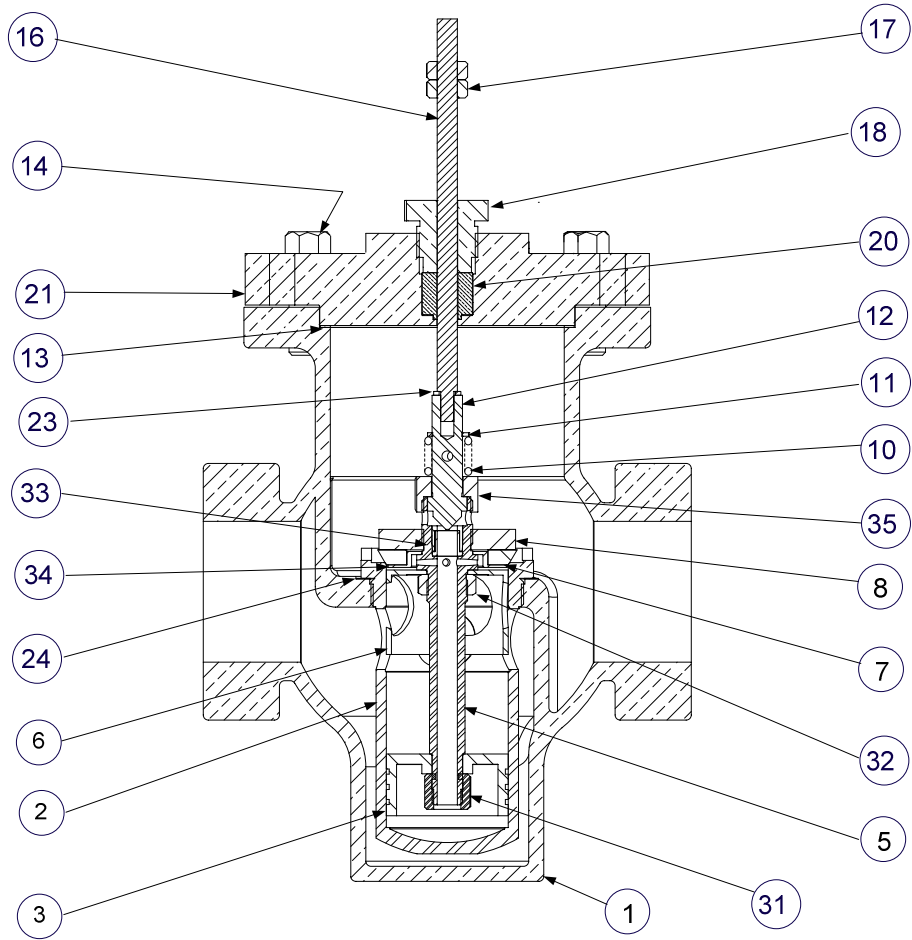
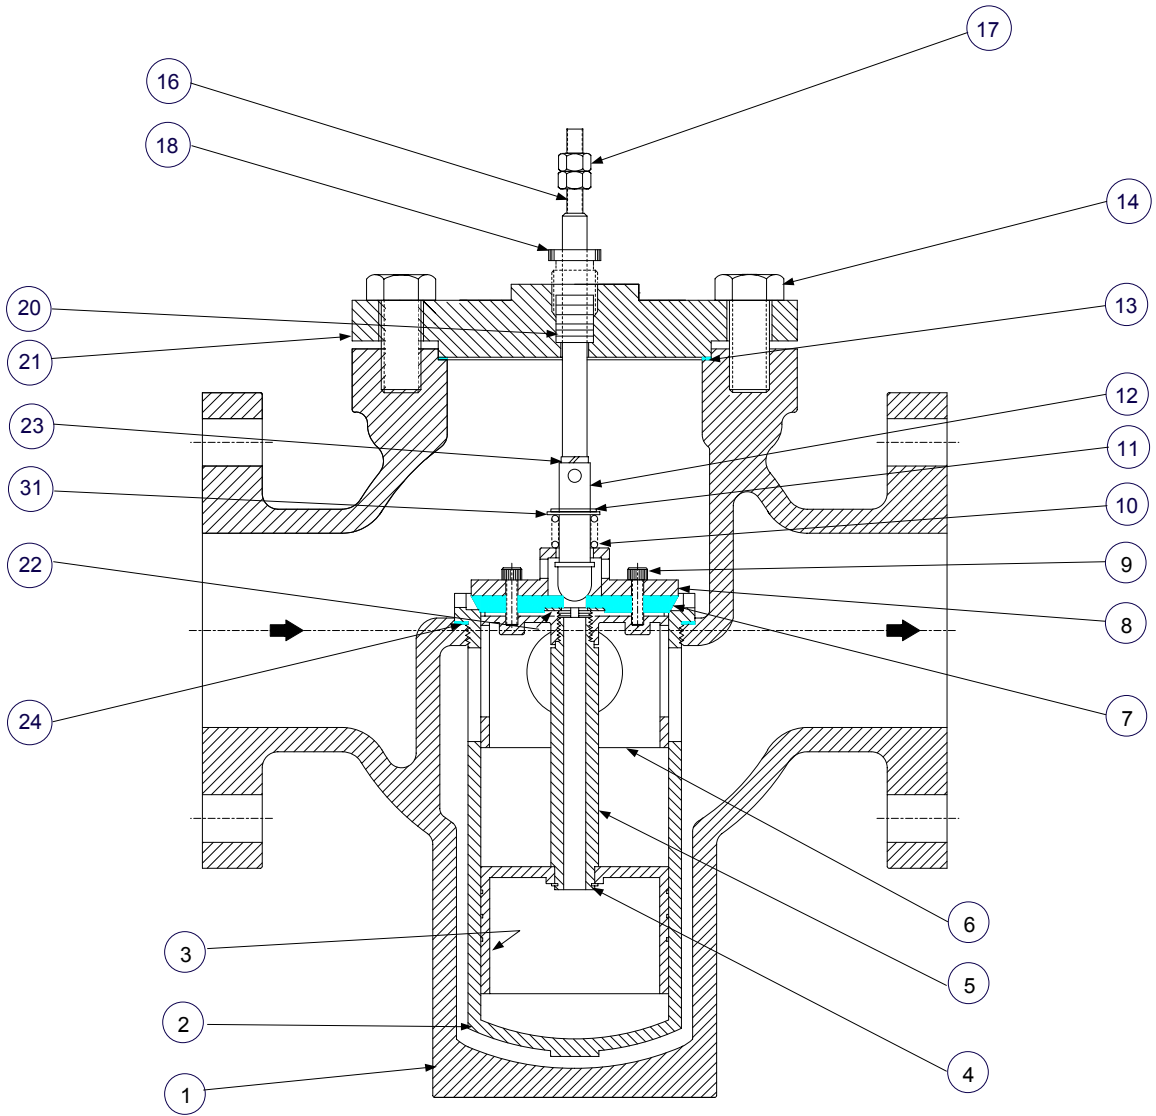

Figure 3-1. Valve Assembly Sizes 1.00" to 2.00"
Figure 3-2. Valve Assembly Sizes 2.50" to 4.00"
The parts replacement items required for Valve Bodies which previously used Pneumatic or Electro-Hydraulic Actuators are basically identical. Only minor variations exist for the various Valve Body sizes. The Valve Body components for 1.00" to 2.00" and 2.50" to 4.00" are shown in Figures 3-1 and 3-2, respectively.
Steps 1 through 5 which follow apply to all valve sizes shown in Figure 3-1 and 3-2.
1. Remove the Hex Nut (17) from the Valve Body Shaft.
2. Remove the Packing Nut (18) and Packing Assembly (20).
3. Remove the Bolts or Cap Screws (14) securing the Valve Top (21).
4. Remove the Valve Top (21) and Valve Top Gasket (13).
6. For 1 inch to 2 inch Valve sizes, refer to Figure 3-1 and remove the following items in the order specified:
- (a) Lock Washer (23)
- (b) Retaining Ring (11)
- (c) Pilot Spring (10)
- (d) Valve Stem Retaining Nut (35)
- (e) Lower Shaft (16) and Valve Stem (12)
- (f) Retaining Disc (8)
- (g) Disc Seat (7)
- (h) Seat Retainer (34)
- (i) Valve Plug Shaft (5)
7. For 2 ½, 3 and 4 inch Valve sizes, refer to Figure 3-2 and remove the following items in the order specified:
- (b) Pilot Spring Retainer (11)
- (c) Pilot Spring Backup Washer (31), - 4 inch Valve Only
- (d) Pilot Spring (10)
- (e) Socket Head Cap Screws (9)
- (f) Valve Seat Retaining Disc (8)
- (g) Lower Shaft (16) and Valve Stem (12)
- (h) Valve Seat (7)
- (i) Top Piston (6) and Bottom Piston (3) Assemblies
Reassembly is accomplished by basically reversing the previous Disassembly steps. Refer to Figure 3-1 or 3-2 for the applicable Valve size. Perform the following steps in the order specified and REPLACE the items shown in **BOLD** type with the new parts provided in the Retrofit Kit.
1. For 1 inch to 2 inch Valve sizes, refer to Figure 3-1 and reassemble or **replace** the following items in the order specified:
- (a) Valve Plug Shaft (5)
- (b) Seat Retainer (34)
- (c) **Replace Disc Seat (7)**